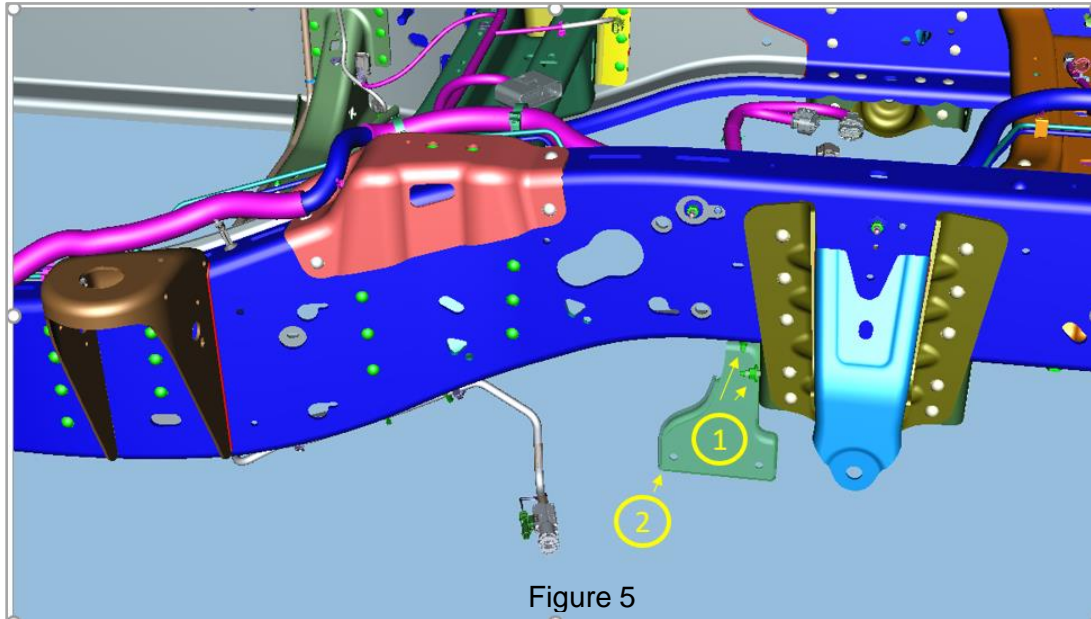

Figure 5
14. Remove fasteners from supporting bracket (Figure 5 – Item 1x2)
15. Remove Bracket (Figure 5 – Item 2)